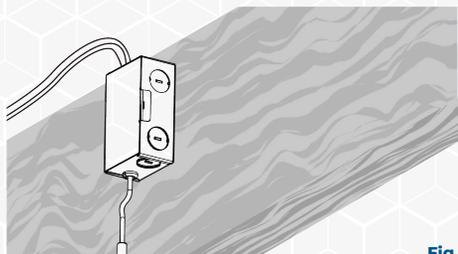

Fig.2
5. Insert hardwire box through the mounting hole (**see Fig.2**).